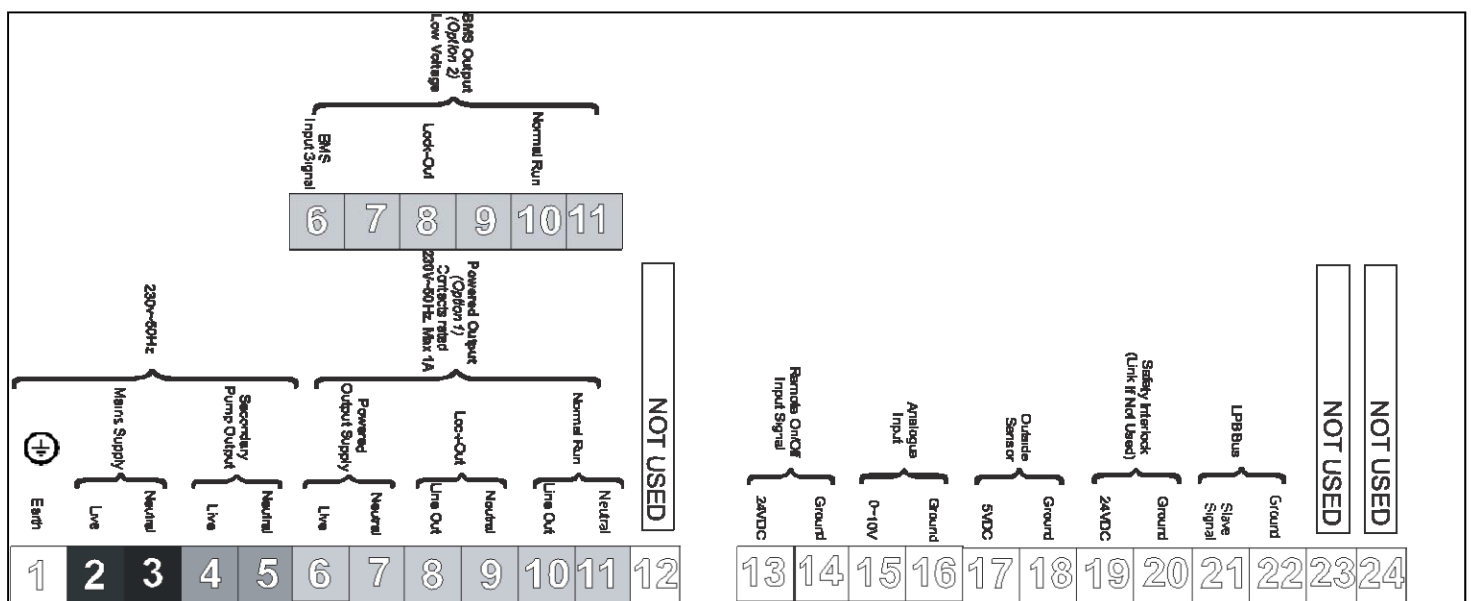

Figure 4.6 - Wiring Schematic
**FOR TYPICAL SCHEMATIC DETAILS SEE FIGURE 4.6